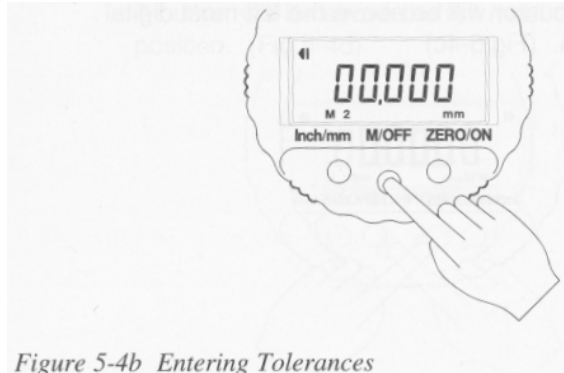

Figure 5-4b Entering Tolerances
- 2) Press and release M/OFF to display the M2 icon. (Fig.5-4b)